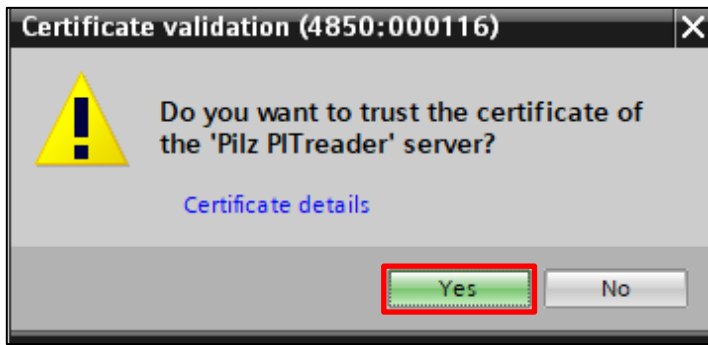

Figure 16: Certificate of the PITreader
- In the window that opens, click on "Yes" to trust the PITreader's certificate (Figure 16 red square).